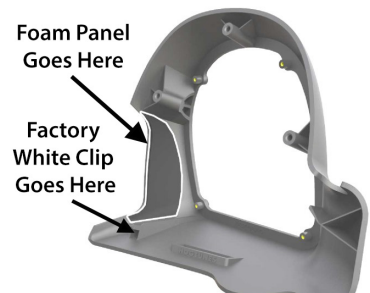

Figure 1.1
5. The kit comes with die-cut foam panels. Find the one for the side of the bike you are working on and apply it as shown, noting you should clean the area with isopropyl alcohol first. On your factory front panel, you will see 2 white clips. One of these clips will come off and be installed onto the new speaker adaptor. See Fig. 1.1